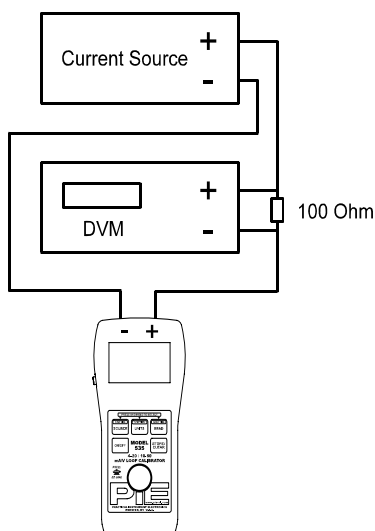

FIGURE 1 (Read mA)
Press the READ Button until "mA Read" appears in the bottom right corner of the LCD. Connect the Model 535 terminals to a Voltage Source (See Figure 1).
1. Connect a Current Source in series with a 100 Ω resistor and the UUT. Monitor the current by placing a DVM in parallel with the 100 Ω resistor (See Figure 1).